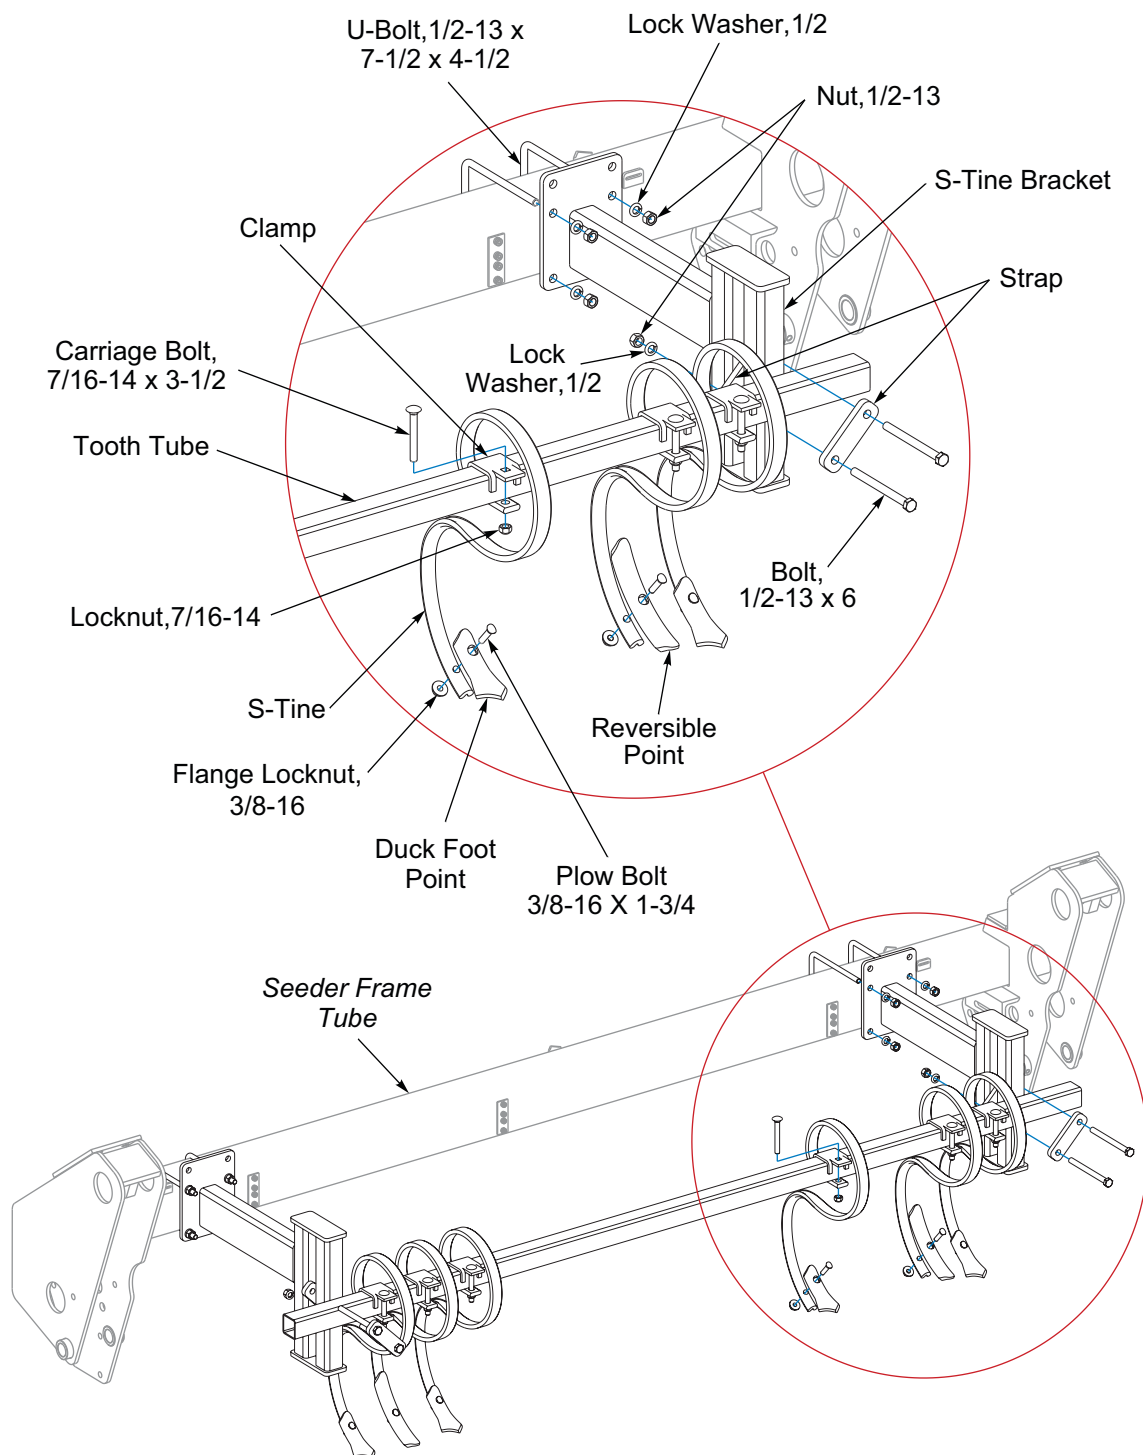
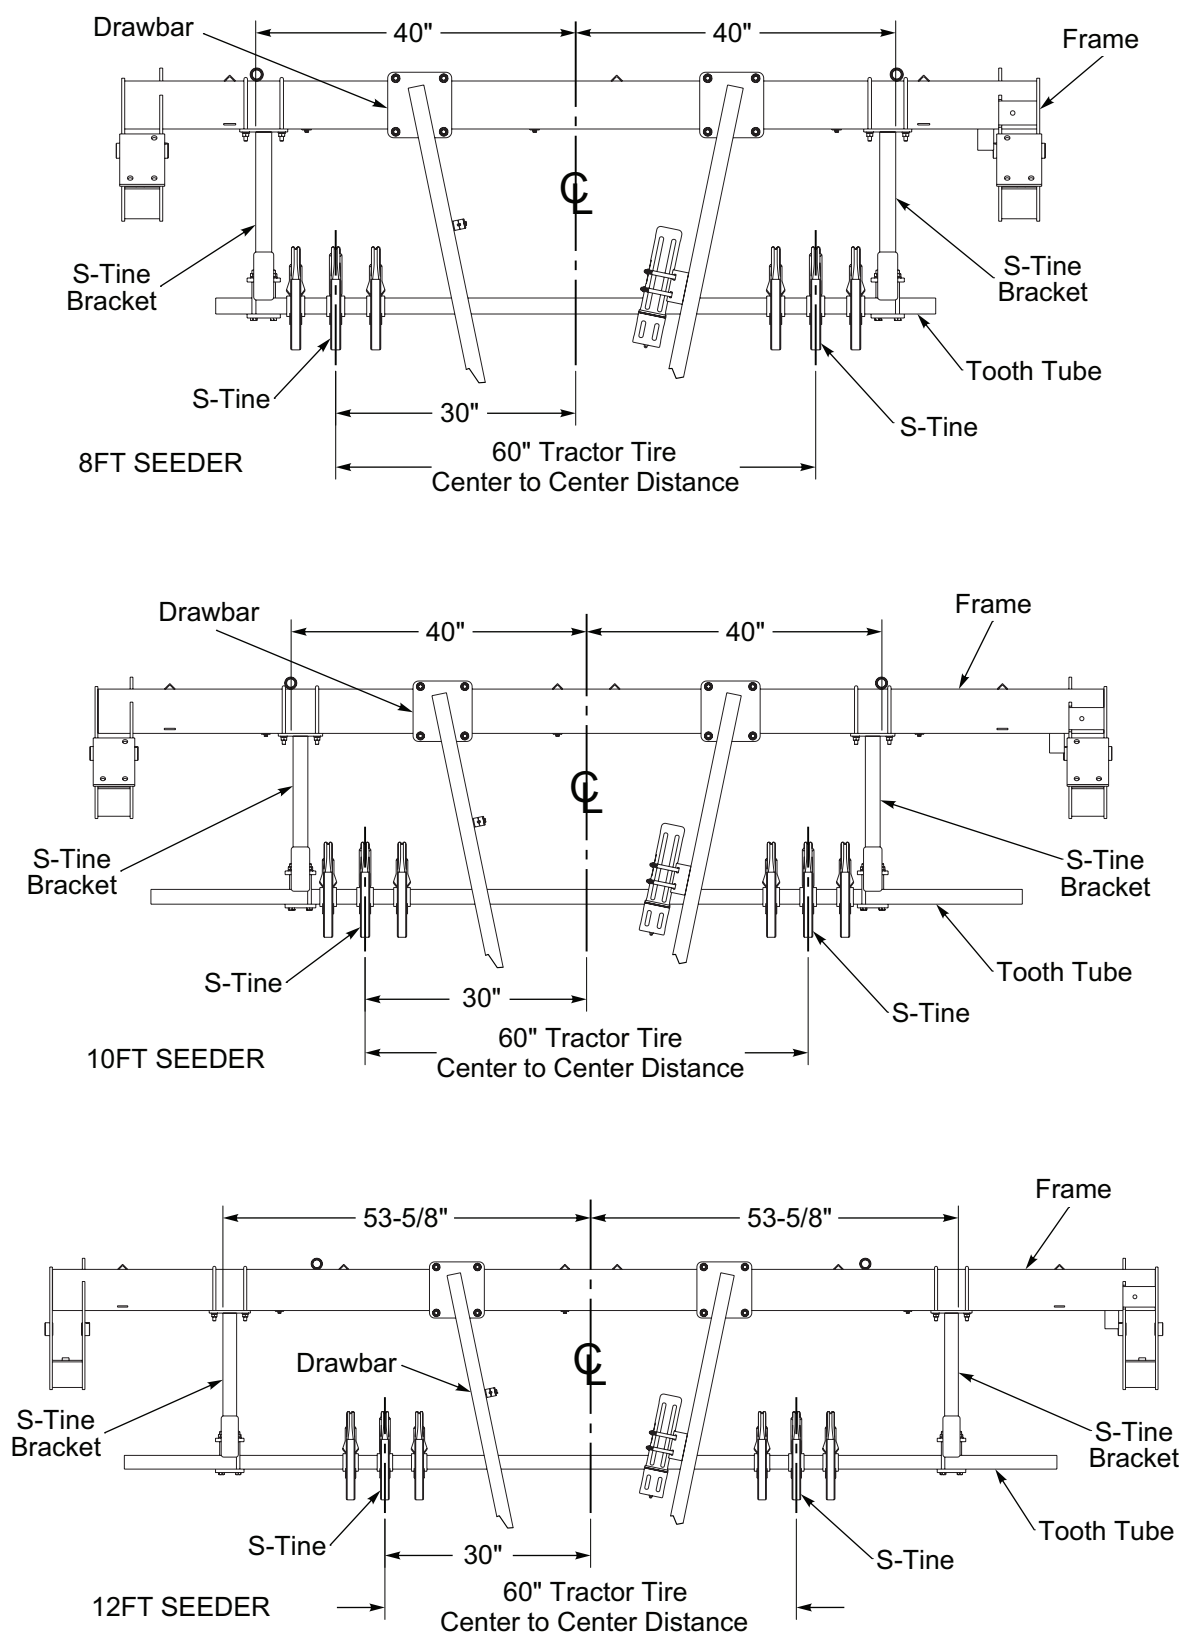

Figure 2-53: S-Tine Track Remover Kit - Optional
Figure 2-54: S-Tine Mounting Dimensions
S-Tine Brackets and S-Tines should be positioned per application. Use **Figure 2-54** only as a reference.
1. Center and position the S-Tine Brackets in relationship with the center of the Drawbar or 3-PT Hitch to the front of the Seeder Frame Tube. **See Figure 2-54.** Secure S-Tine Brackets to the Seeder Frame Tube with 1/2-13 x 7-1/2 x 4-1/2 U-Bolts, Lock Washers and Nuts. **See Figure 2-53.**